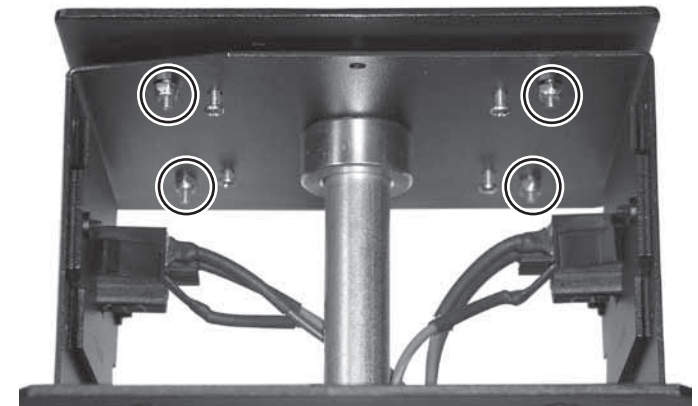

Figure B-5 — Location of the top plate nuts
- h. Remove and retain the four 1/4" nuts that secure the top plate to the lifting plate (figure B-5) and remove the plate.